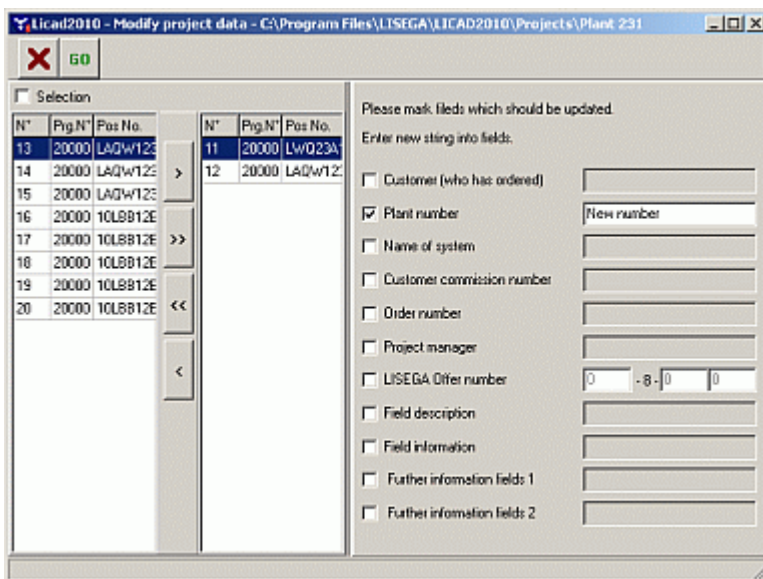

Figure 54: Altering project data in stored drawings
The entry screen is structured analogously to Figure 54. Selection is also to be made as described under program item 5.2.